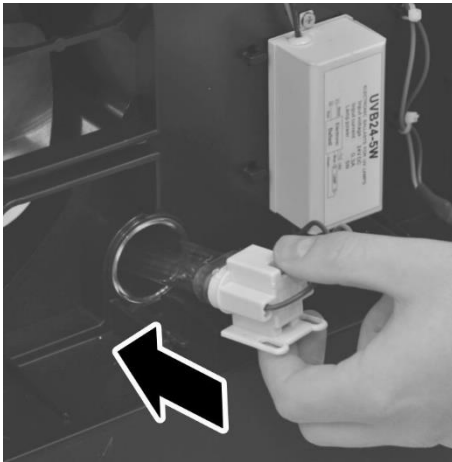

Fig. 37: Push the UV lamp into the opening
7. Push the UV lamp and socket back into the opening (Fig. 37).